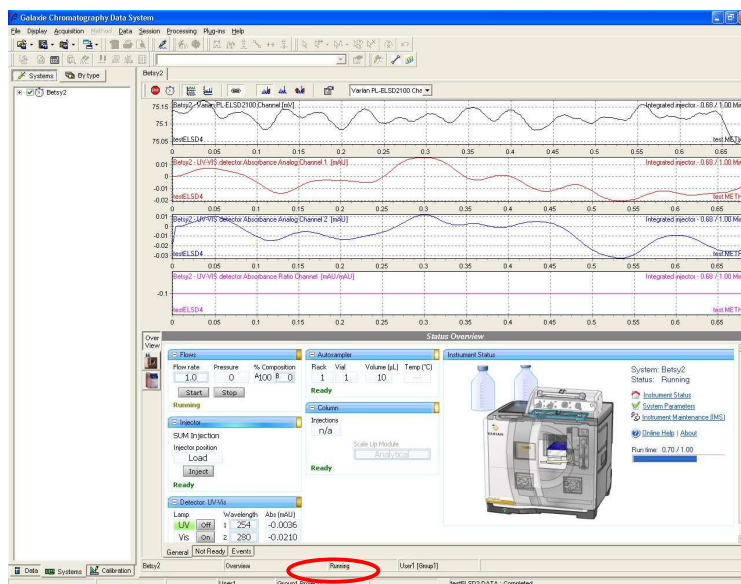

Figure 15: Run with the ELSD
19. Start a quick acquisition and the method will download to the instrument. It may get stuck in Prerun for a while as the ELSD becomes ready but will eventually start. Below is a picture of a run that has begun its acquisition after a blank injection (Fig 15).